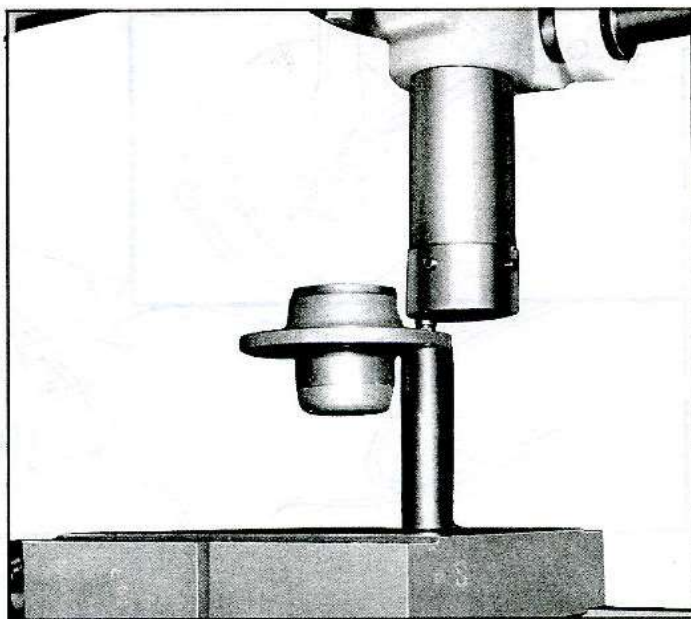

Fig. 3-9—Installing Hub Bolts
2. When installing a new hub, it is necessary to install new studs (fig. 3-9). They may be easily removed and installed on an arbor press. Place a socket under the stud being removed or installed and bring the press ram in direct contact with the stud shank or head. Be sure the head is in full contact with the hub flange when installation is complete.